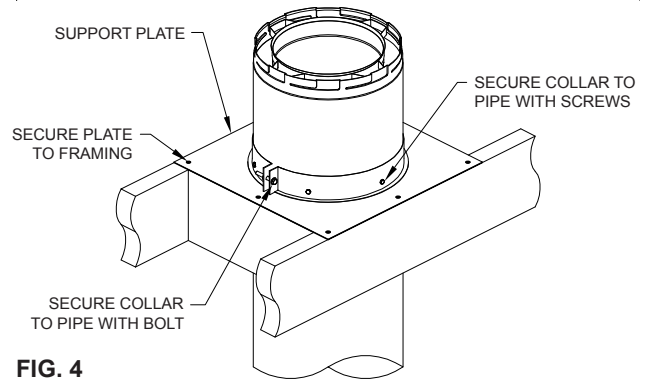

FIG. 4
Sure-Seal DV can be supported vertically using a Support Plate Assembly (8DVSP). Frame opening (minimum 13"x13") and secure Support Plate to frame with nails or screws. Slide vent section through the Support Plate and secure by firmly tightening the Support Collar around the pipe so that the Support Collar rests upon the Support Plate (See **FIG. 4**). Secure Collar to pipe with (6) #8-1/2 sheet metal screws.